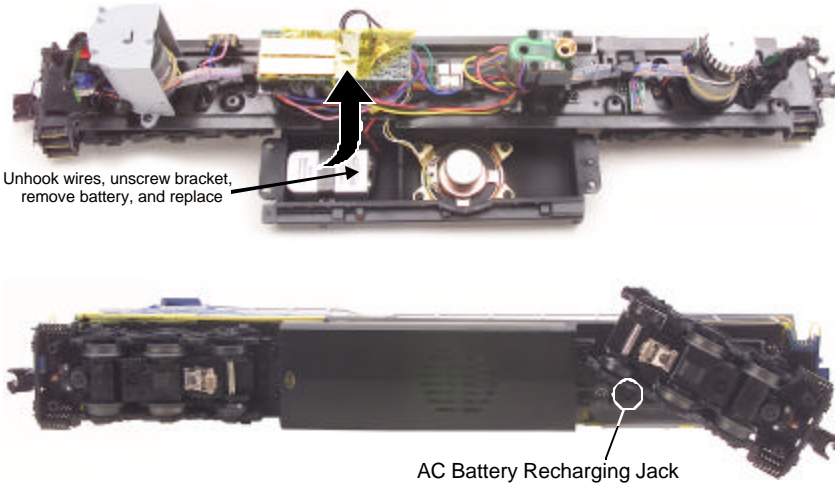

Figure 11. Replacing the Battery (Remove the fuel tank to access the battery.)
- Use M.T.H.'s recharger (sold separately) that plugs into a wall outlet and a special port under the engine (see figure 11 on pg. 15) to recharge the battery overnight.
- Or you can remove the battery (see figure 11 on pg. 15) and charge it in any standard slow charge battery recharger, following the recharger's directions.
Replace: If the sounds are not improved at the end of the 15-minute test charge, it is time to replace the battery (see figure 11 on pg. 15).